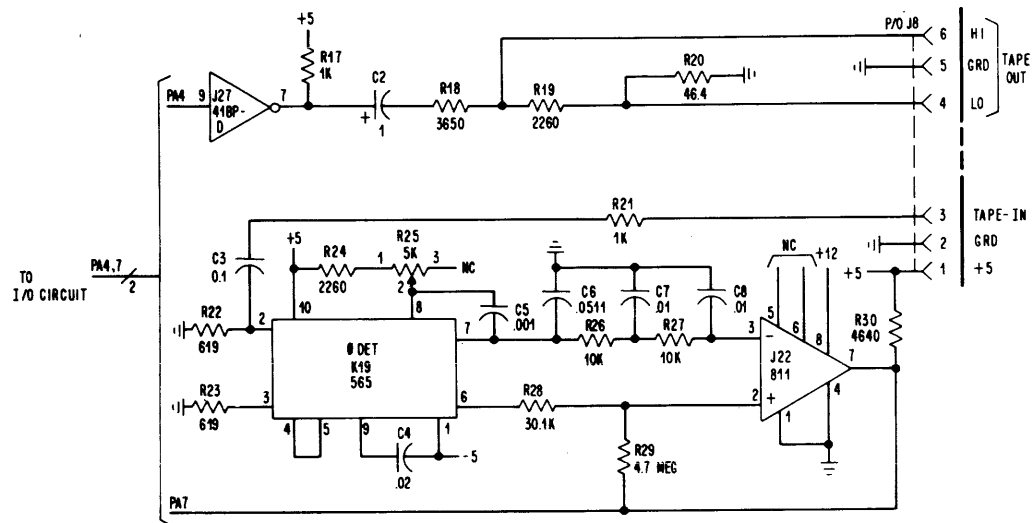

Figure 2-8. Cassette Tape Interface Schematic Diagram
2.2.7 Cassette Tape Interface (See Figure 2-8.)